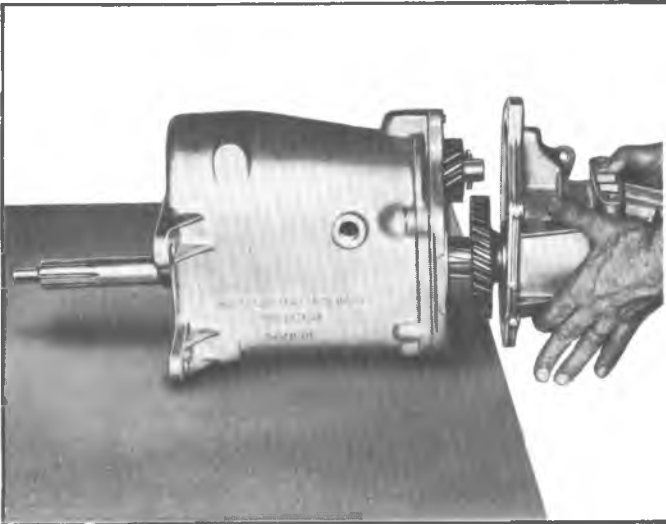

Fig. 19B--Installing Case Extension
18. Pull reverse shifter shaft to left side of extension and rotate shaft to bring reverse shift fork forward in extension (reverse detent position). Start the extension onto the transmission case (fig. 19B), while slowly pushing in on the shifter shaft to engage the shift fork with the reverse gear shift